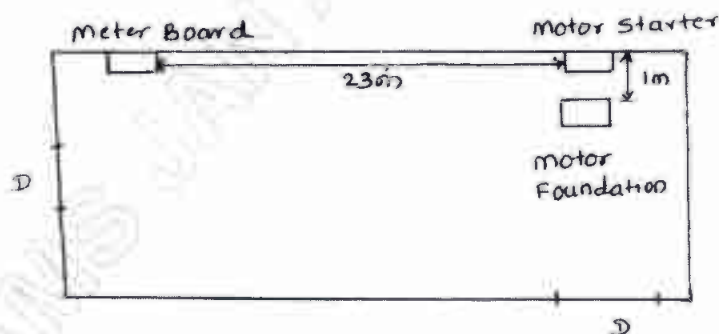

Fig.Q6(b)
- b. A 10Hp, 415V, 3 phase, 50Hz induction motor is to be installed in a workshop the plan of which is shown in Fig.Q6(b). Draw the layout of the wiring and estimate the materials required the wiring is to be surface conduct. Assume motor efficiency as 85% and power factor as 0.8 lagging.